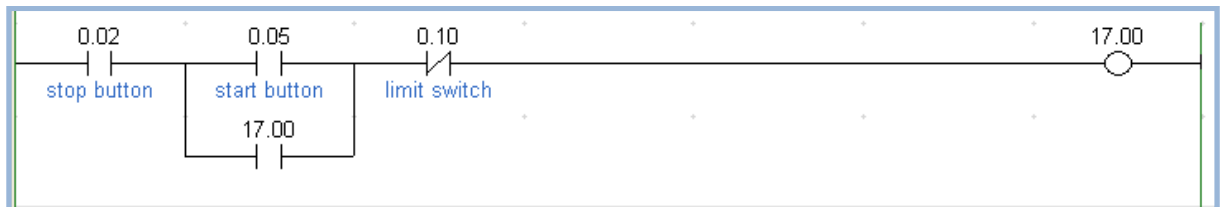

Figure 1: Ladder diagram
- (b) Determine **five (5)** standard PLC programming languages. (5 marks)
- (d) Draw the PLC input wiring for all the input devices shown in ladder diagram **figure 1**.